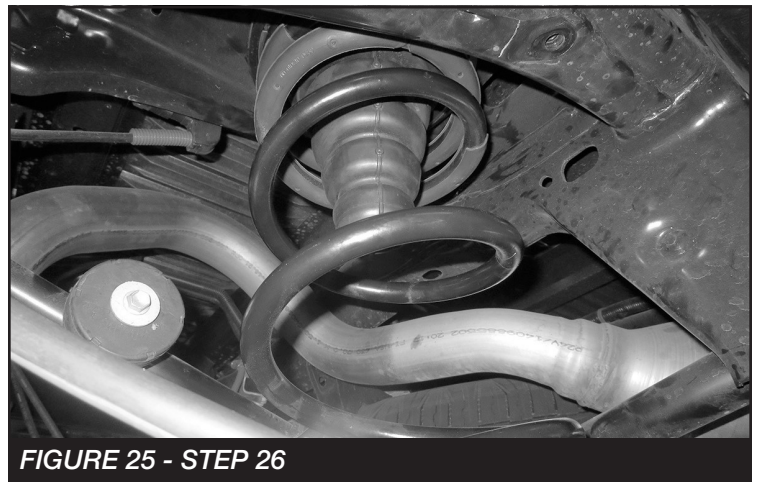

FIGURE 25 - STEP 26
26. Reinstall the rear coil springs with the factory isolators. **SEE FIGURE 25**